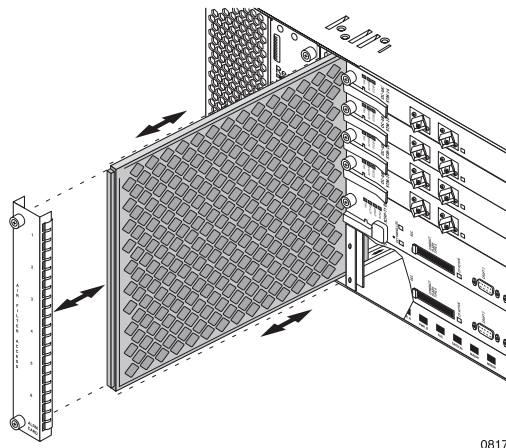

Figure 35 Replacing the Air Filter with Separate Panel
- b If you are installing a filter with a separate panel, insert the panel into the opening; see Figure 35.